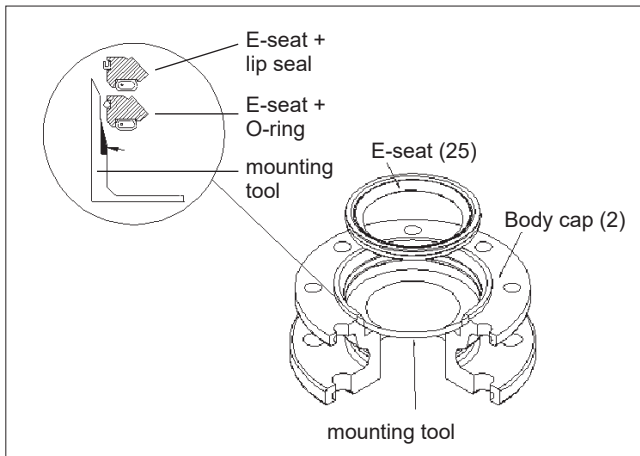

Fig. 24 Mounting the E-seat
- **E-seat:** Place the back seal (113) in the groove of the seat outer circle (25), Fig. 24. Place the spring (62) in the body. Place the seat in position with a special tool which is supplied with instructions, see Figure 24 and Section 8 'Tools'.